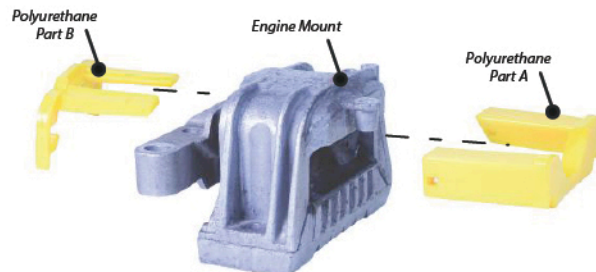

Figure 1 - exploded diagram showing how to fit polyurethane parts in engine mount
4. Fit Part B into the top voids closer to the mounting bracket and lock the pins of Part B into the pin holes on Part A to secure the two together (Figure 1).